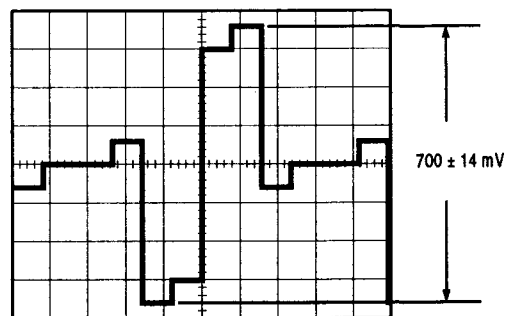

Fig. 5-1-14
- Adjust VR12 so that the Pr Level becomes  $700 \pm 14$  mV as shown in Fig. 5-1-14.